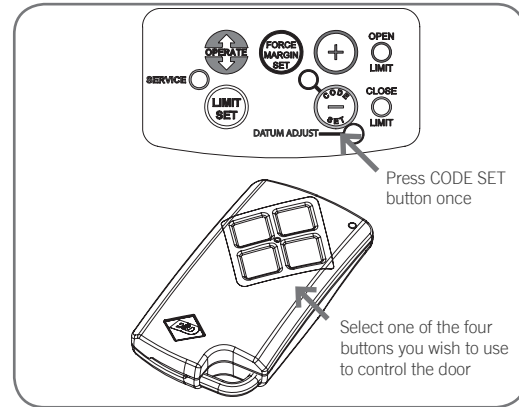

Fig. 32
- Press the CODE SET button and release. The CODE SET LED will illuminate to indicate the opener is in Code Learn mode. If a valid code is not stored within 15 seconds the opener will exit Code Learn (**Fig. 32**).